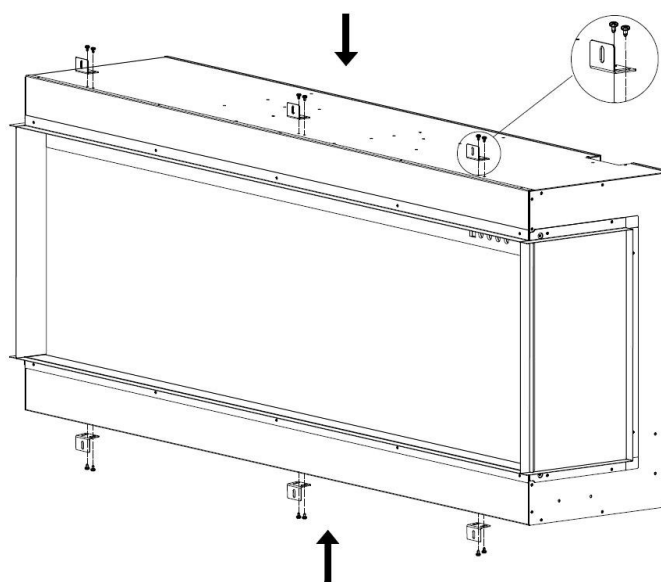

Fig.3-2
5. Fix the L shape brackets with the screws in the previous step. Fig.3-2